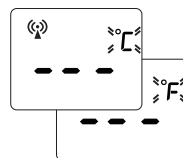

Fig.2
4. Click "Quick add" on the App to add your body temperature, and the LCD will display "Data Transmission Indicator" (See Fig 2.). Press "SCAN" for measuring (See Fig 3.) and the measured temperature will be shown on the App automatically.